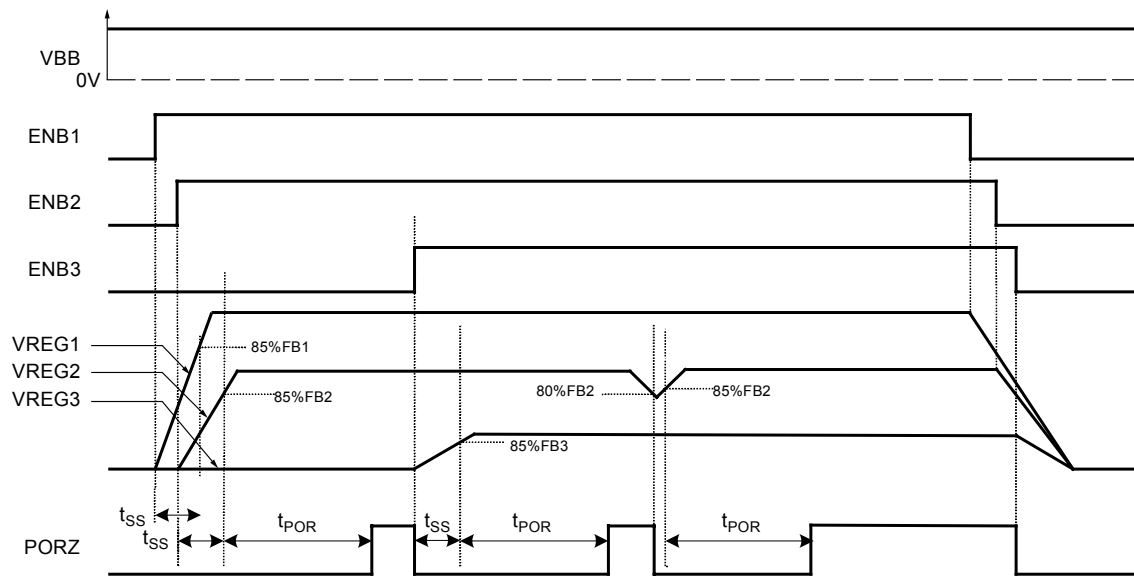

Figure 2. Timing diagram for powering up and down using the ENB pin
**Powering Up and Down with Enable** Referring to figure 2,  $V_{BB}$  is present and the UVLO start-up thresholds,  $V_{BBUV(su)}$  and  $V_{BBCP(su)}$  have been reached. Each of the regulators are enabled in turn. Initially, VREG1 is enabled and is brought-up under the control of the soft start circuit ( $t_{SS}$ ). Before VREG1 reaches 85% FB1, VREG2 is enabled and is brought-up under a separate soft start control.